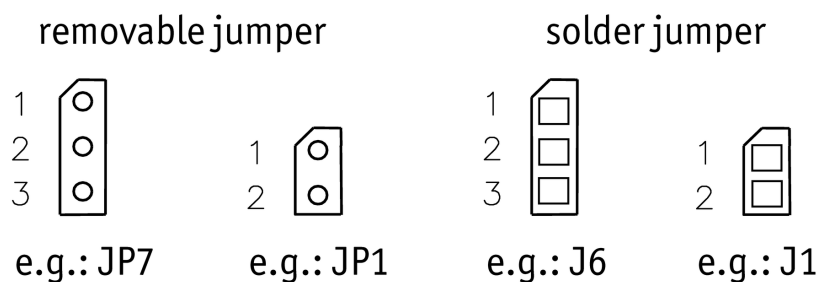

Figure 17: Typical Jumper Numbering Scheme
The phyCORE Carrier Board comes pre-configured with 15 removable jumpers (JP) and 22 solder jumpers (J). The jumpers allow the user flexibility of configuring a limited number of features for development purposes. Table 41 below lists the jumpers, their default positions, and their functions in each position. Figure 17 depicts the jumper pad numbering scheme for reference when altering jumper settings on the development board.